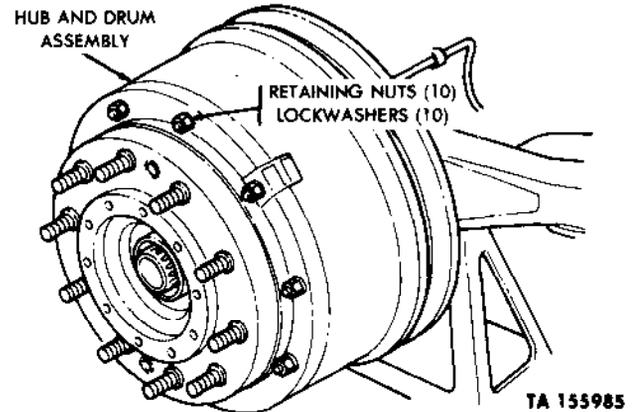

Figure 2-201. Removing hub and drum assembly.
c. Drums. All drums (fig. 2-201) are secured to the hubs by retaining nuts and lockwashers installed on the mounting studs at the hub flanges. All drums are interchangeable between front and rear axles and opposite sides of the vehicle.
(6) Remove the hub and drum assembly (fig. 2-201) from the axle spindle (10, fig. 2-200).
(7) Remove the 10 nuts (fig. 2-201) and lockwashers securing the brake drum to the hub, pry the drum from the hub.
(2) Install the hub and drum assembly (fig. 2-201) on the axle spindle so that the inner tapered roller bearing cone and inner-bearing oil seal enter the hub inner bore.